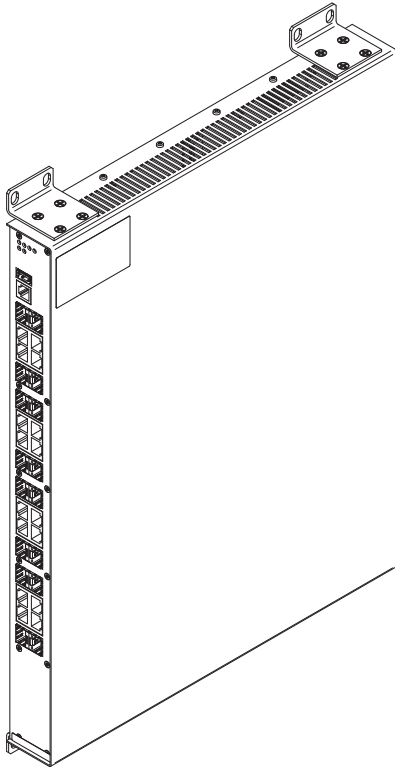

Figure 13: Vertical mounting on the wall
- Use the pre-mounted brackets included in the delivery as shown in the following figure (see fig. 13).
- Attach two additional brackets to the device (see on page 48 „Accessories“, not included in the delivery) as shown in the following figure (see fig. 13).